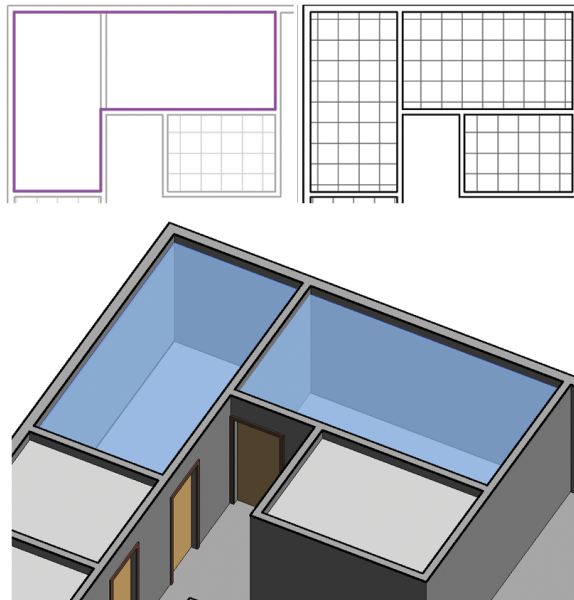

FIGURE 3.30 Sketching the ceiling
5. Next, you'll place ceilings in the upper-left corner of the ceiling plan for Level 1, but this time you'll share the ceiling between the two spaces. This practice is common in interior projects. The partitions extend only to the underside of the ceiling (rather than connect to the structure above). Select Sketch Ceiling on the Ceiling panel of the Modify | Place Ceiling tab. Add sketch lines as shown in the first image in Figure 3.30. The result is shown in the second image.